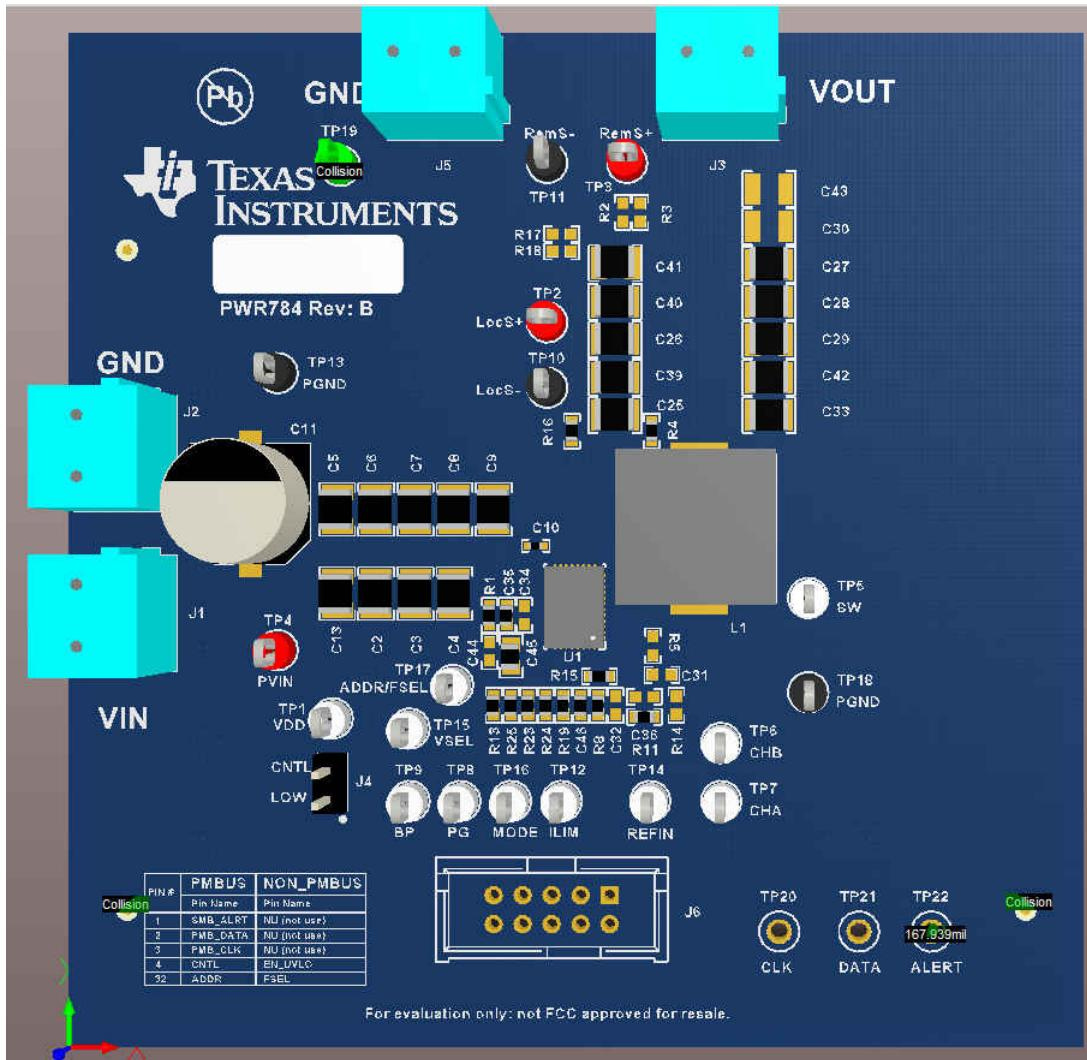

Figure 6-1. PWR-784EVM Overview
Multimeters: It is recommended to use two separate multimeters Figure 6-1. One meter is used to measure V_{IN} and one to measure V_{OUT} .
Output Load: A variable electronic load is recommended for testing Figure 6-1. It must be capable of 40 A at voltages as low as 0.6 V.
1. Connect V_{OUT} to J3 and V_{OUT_GND} to J5 Figure 6-1.
4. Connect V_{IN} to J1 and V_{IN_GND} to J2 Figure 6-1.